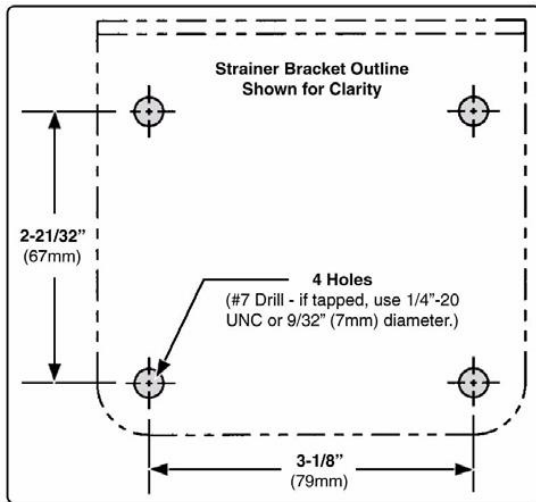

Figure 24: In-Line Strainer Mounting Bracket
2. Mark 4 holes to mount the foam strainer bracket. Drill tapped holes for 1/4"-20 UNC screws (#7 drill for 1/4"-20 UNC tap)...or...drill clearance holes for 9/32" (7 mm) for 1/4"-20 UNC screws. (See Figure 24: **In-Line Strainer Mounting Bracket**).